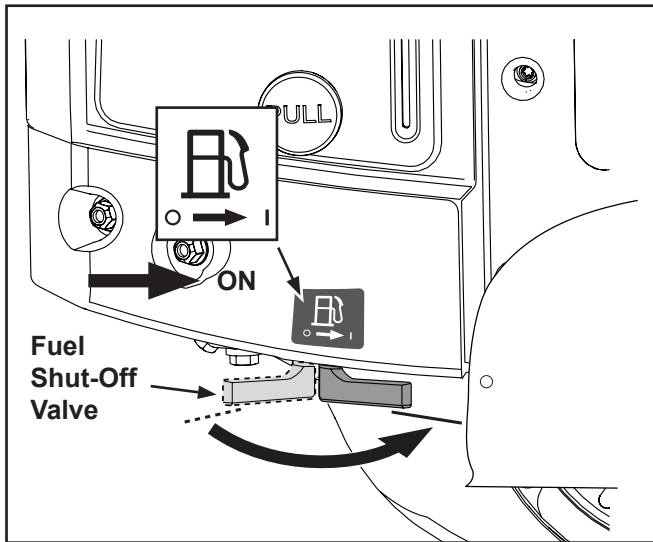

Figure 4. ON Position of Fuel Shut-Off Valve.
1. Turn the fuel shut-off valve to the ON position. See Figure 4.